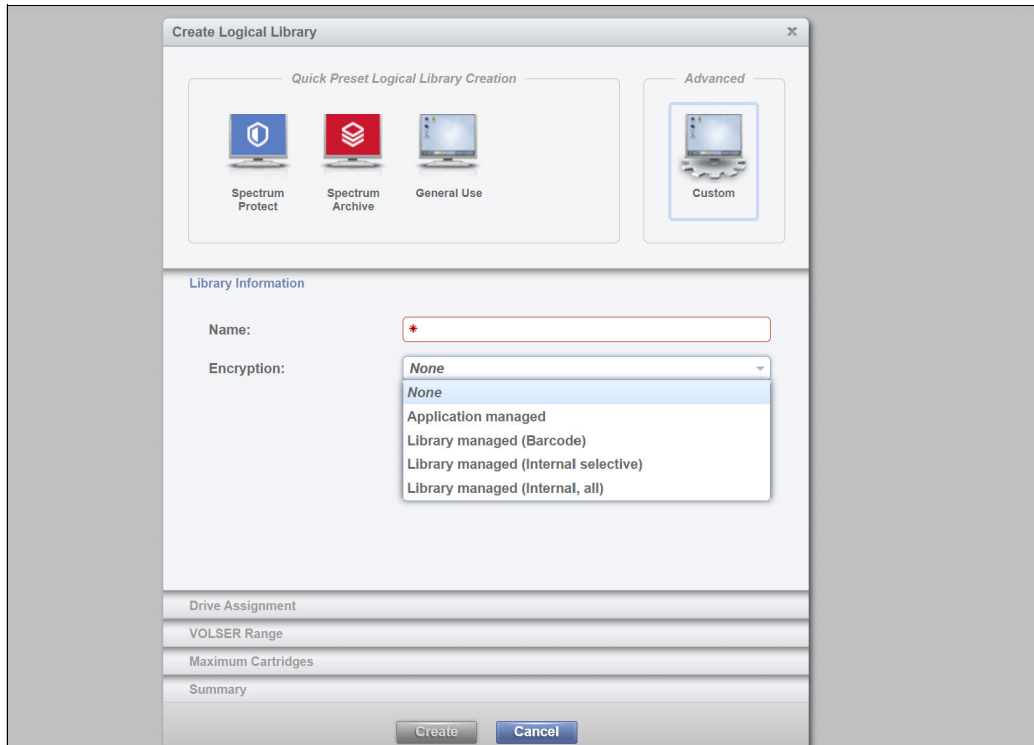

Figure 5-42 Custom Logical library settings
1. Select the number of drives and slots to use for the logical library that you are configuring. Figure 5-42 on page 86 shows the initial menu after you select **Custom**. Additionally, you can select the drive assignments, VOLSER range, maximum cartridges, and summary.